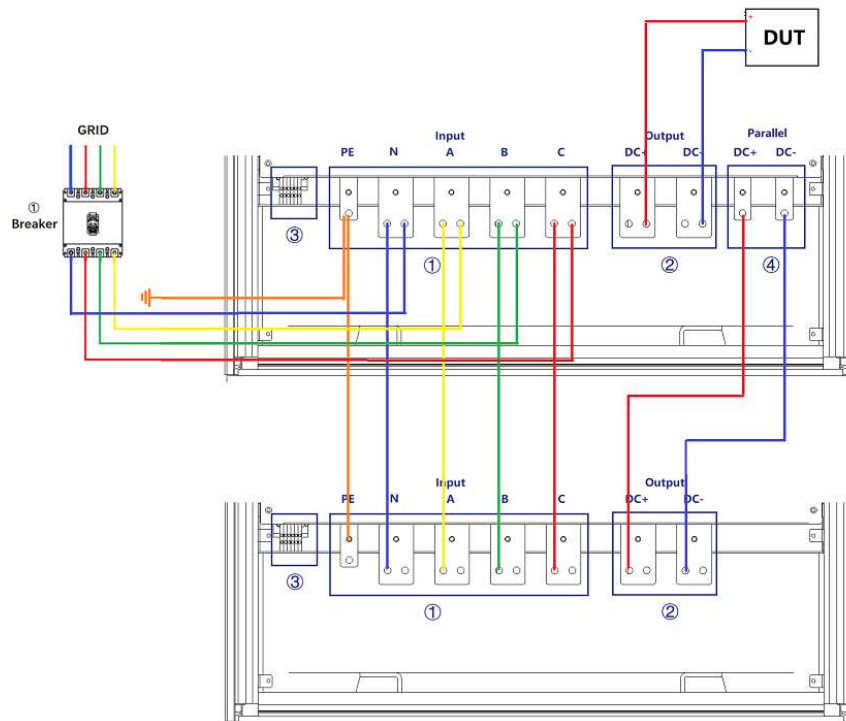

Figure 2-14 Equipment wiring completion status
**Step 5:** After completing the above work, the wiring status of power supply is shown in Figure 2-14. Restore the bottom baffle on the front side, close the cabinet door, then, the equipment installation is complete.